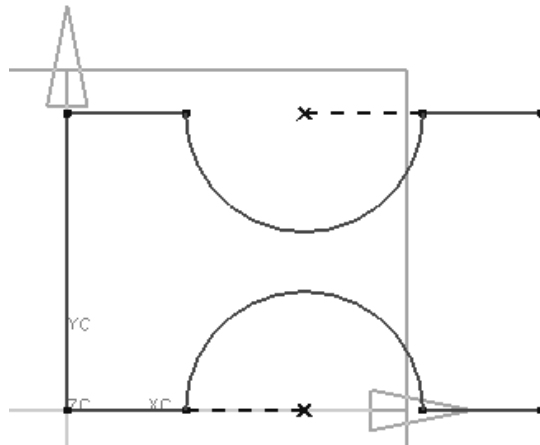

Figure 1-49 Final sketch for Tutorial 2
18. Press the ESC key twice to exit the **Profile** tool. The final sketch of the model is shown in Figure 1-49.